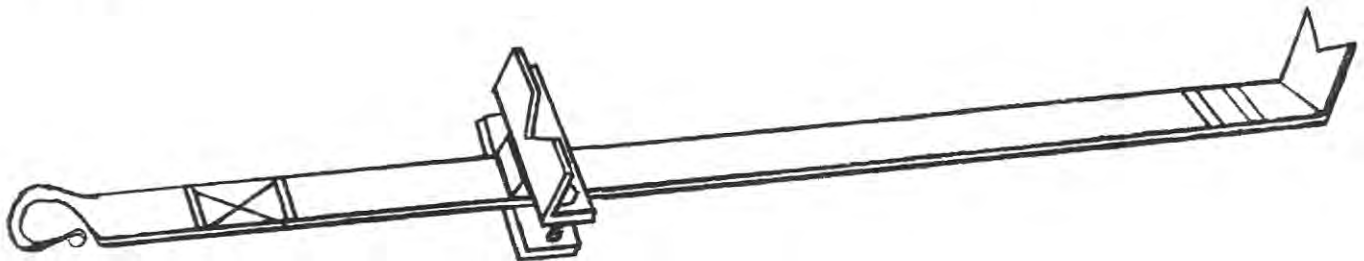

Figure 1
-Decorate the scrolled end of the body by cold marking it as shown in the Figure 1. The marks start about 6" from the scroll end. Make two parallel lines 1/4" apart. Measure 3" further along the piece and make 2 more parallel marks 1/4" apart. Now mark the "X" between the two sets of parallel lines. Cold chisel the marks in so you will be able to "feel" them with a hot cutter when the part is heated. Now heat the part and deepen the chisel marks with a hot cutter. One alternative to the hot cutter is to file the marks to deepen them.
-Assemble the tenon measuring tool as shown in Figure 1 with 2 ea. 5/16-18 X 1" hex head screws.